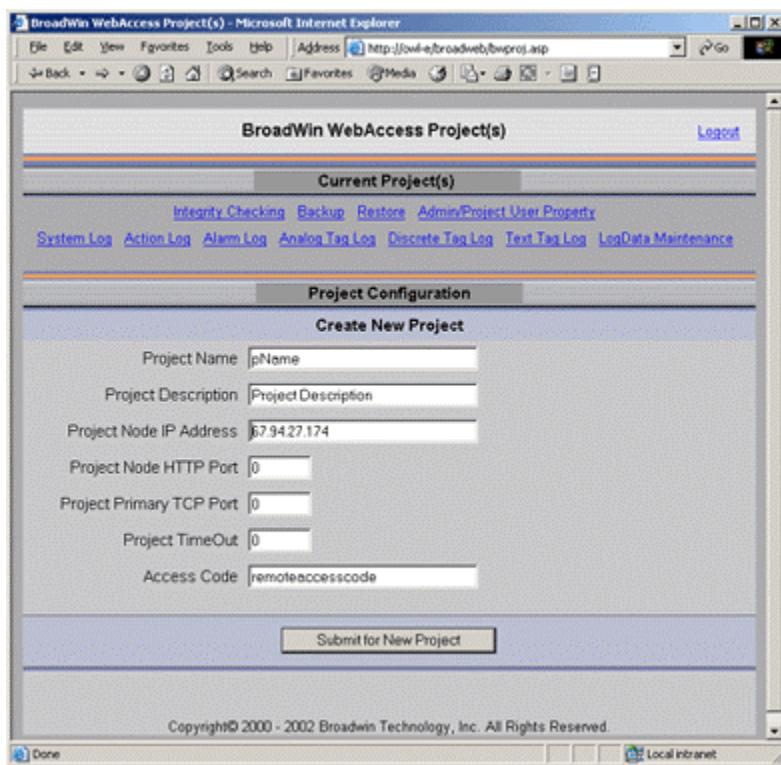
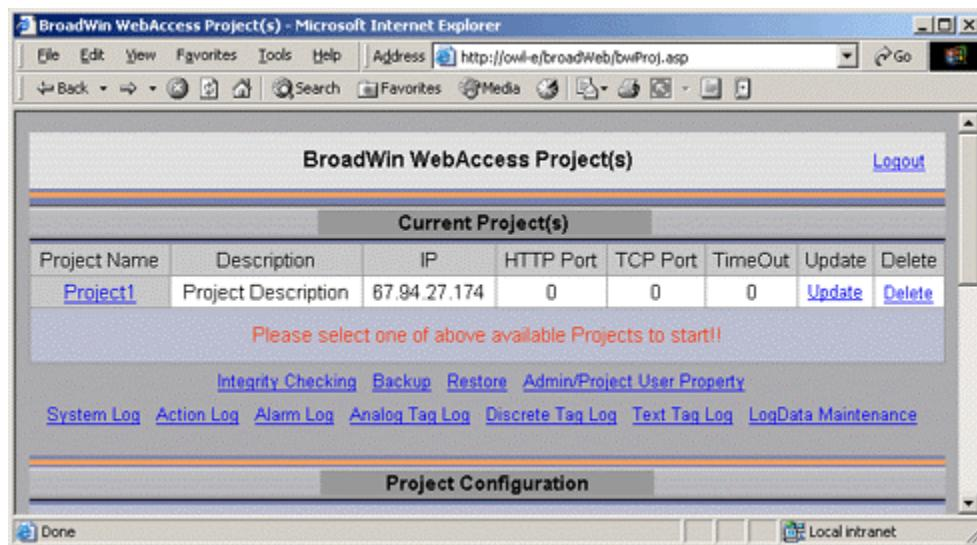

Figure 3-5 - WebAccess Project List empty - newly installed system (bwproj.asp)
Figure 3-6 - Project List - a single project shown.
"WebAccess Project(s)" list appears (bwproj.asp). If this is a newly installed system, it will be empty (Figure 3-5). Otherwise, a list of projects previously configured appears (Figure 3-6).
1. From **Current Projects** (Figure 3-6) select your Project Name.